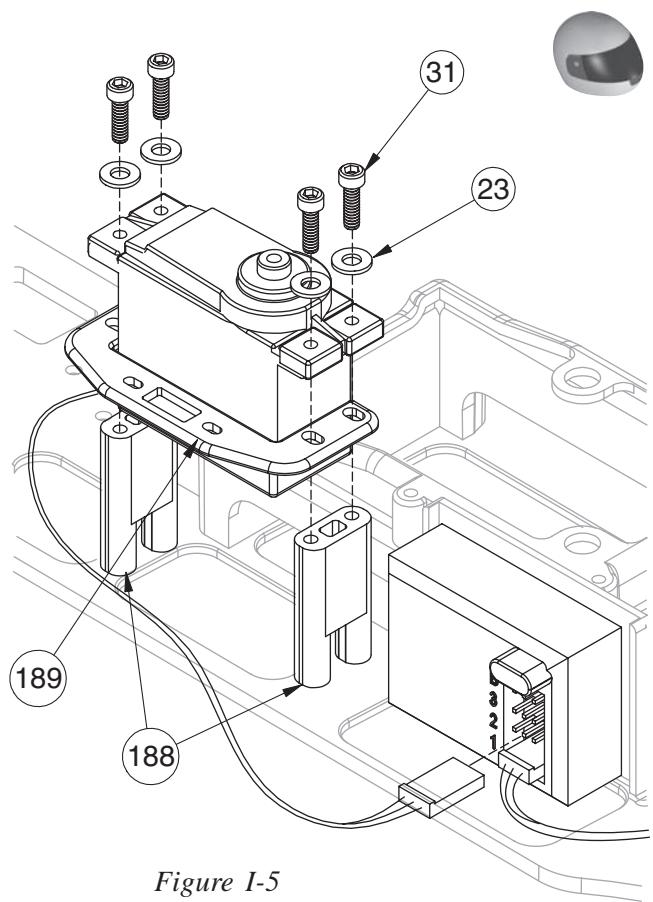

Figure I-5
- 2. Route the servo lead and plug through the slot in the bottom of the *front* Servo Mount (188) and plug it into the slot marked "Channel 2" in the receiver.
- 3. Position the throttle servo and Switch Mount (189) over the Throttle Servo Mounts so that the servo output shaft is to the *front of the truck*, and the Switch Mount is to the right, as shown in Figure I-5.
- 4. Place a #4 Washer (23) over each of four 4-40 x 1/2" Cap-Head Screws (31). Thread a Screw through each of the four Grommets in the servo, through the slots in the Switch Mount, and into the four holes in the top of the Servo Mounting Posts.